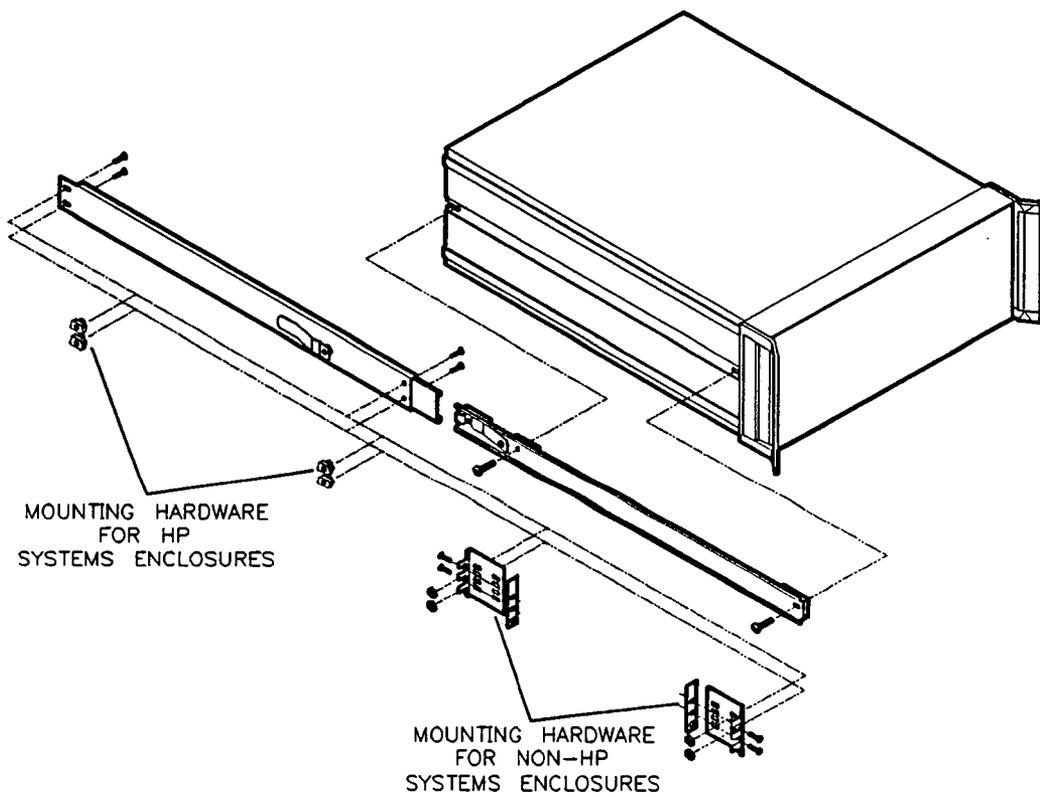

Figure 12-6. Chassis Slide Kit
6. Refer to Figure 12-6. Remove the inner slide assemblies from the outer slide assemblies.